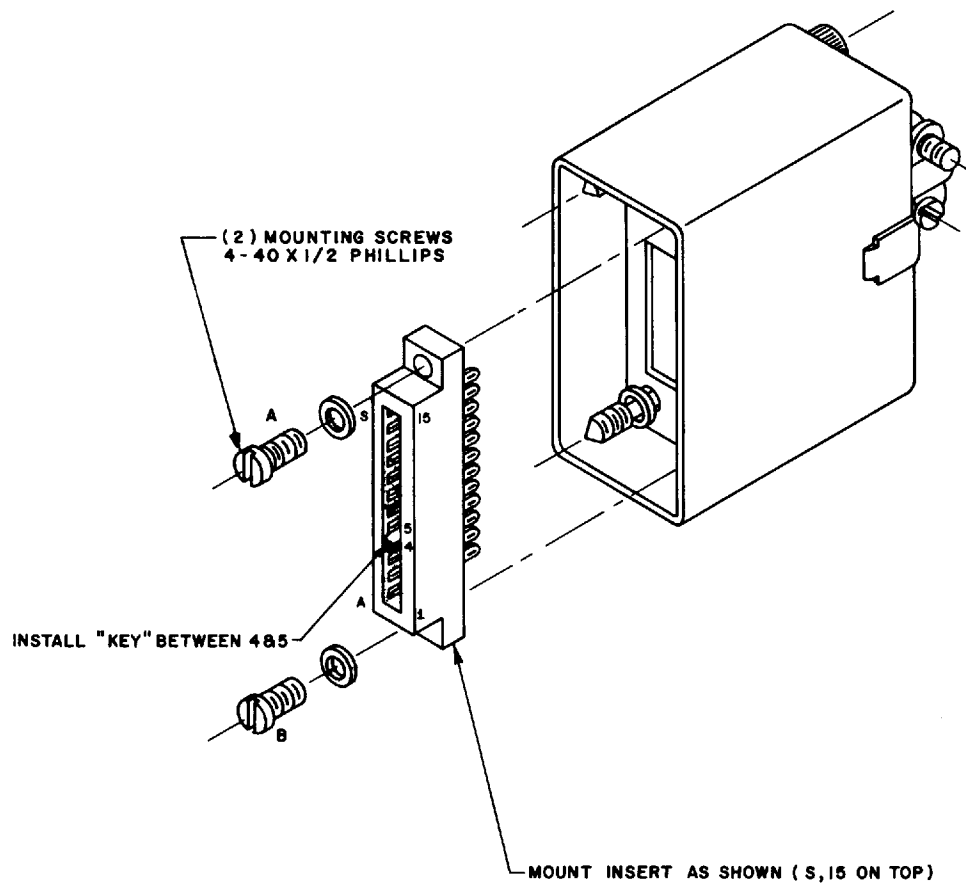

FIG. 1 INSTALLATION OF THE PC-9 MATING CONNECTOR.
INSTALLATION (Refer to FIG. 1)
- 2) Wire the connector terminals and insert the plastic "key" into the correct position (See FIG. 1)
- 3) Re-assemble the connector insert and the connector shell. (See FIG. 1)